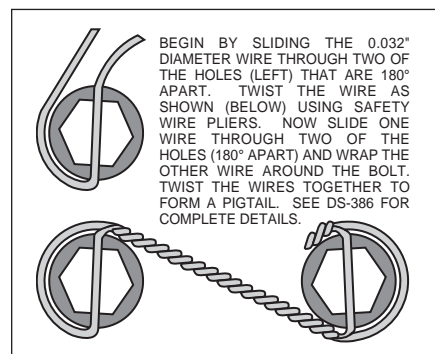

Figure 3. Safety Wire Diagram
- With the larger I.D. side of the rotor (3) facing away from the hat (4), bolt rotor (3) to hat (4) through the backside of the rotor using washers (5) and bolts (6). Using an alternating sequence, apply red *Loctite*® 271 to the threads and torque bolts to 155 **in-lb**. For an added measure of security, the bolts may be safety wired using standard 0.032 inch diameter stainless steel safety wire as shown in Figure 3. Please refer to Wilwood's data sheet DS-386 (available at [www.wilwood.com/Pdf/DataSheets/ds386.pdf](http://www.wilwood.com/Pdf/DataSheets/ds386.pdf)) for complete safety wire installation instructions. Slide the rotor/hat assembly onto the spindle. Install a couple of lug nuts (hand tighten) to keep the rotor/hat assembly in place while continuing with the installation.